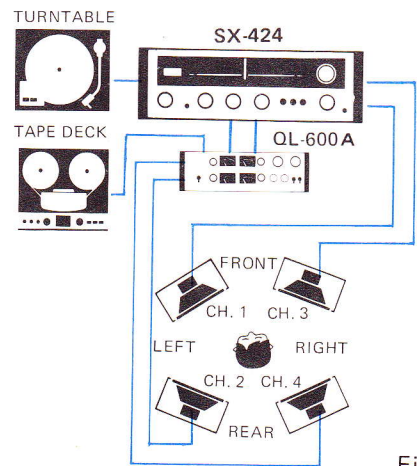

Fig. 3
- With the help of the Pioneer "4-channel decoder" amplifier, model QL-600A and an additional pair of speaker systems, the SX-424 can serve as the heart of an ultra-modern 4-channel stereo system. See Fig.3.